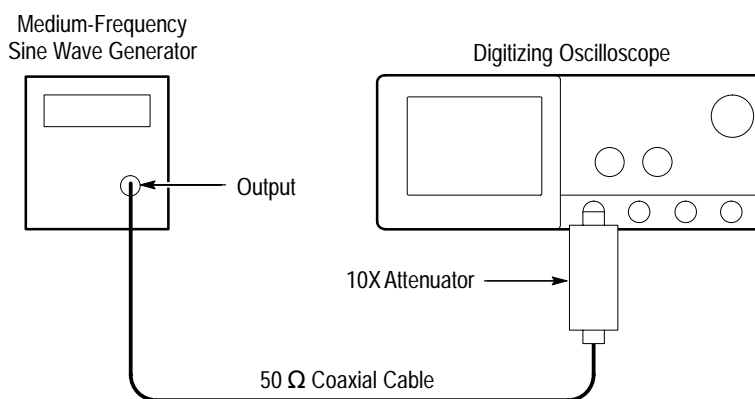

Figure 1–13: Initial Test Hookup
- c. *Hook up the test-signal source:* Connect the output of a medium-frequency leveled sine wave generator (Item 25) to CH 1. Do this through a 50 Ω precision coaxial cable, followed by a 10X attenuator. See Figure 1–13.
- c. *Set upper and lower limits that ensure triggering:* See Figure 1–14.